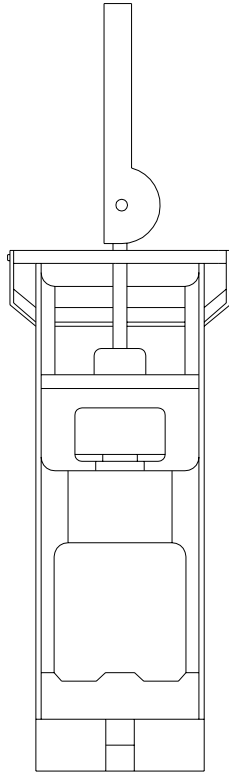

Figure 6-1b
3. Press the **MoASSAY** push-button and once the display has stabilized, read and record the background, (B), measurement.
- a. Place the lever in the lower vertical position (See Figure 6-1b).